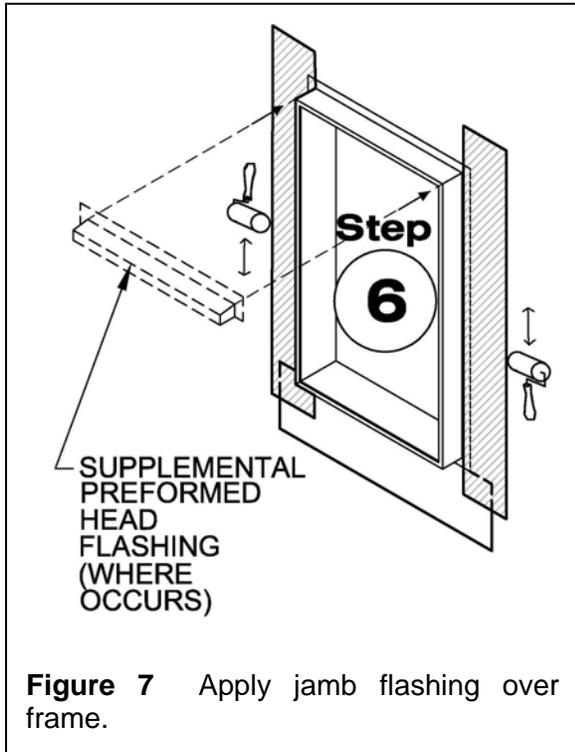

Figure 7 Apply jamb flashing over frame.
Step 6. Precut Polyken® or Nashua® jamb flashing tape to extend a minimum of 6" above and below the rough opening (see Figure 7).